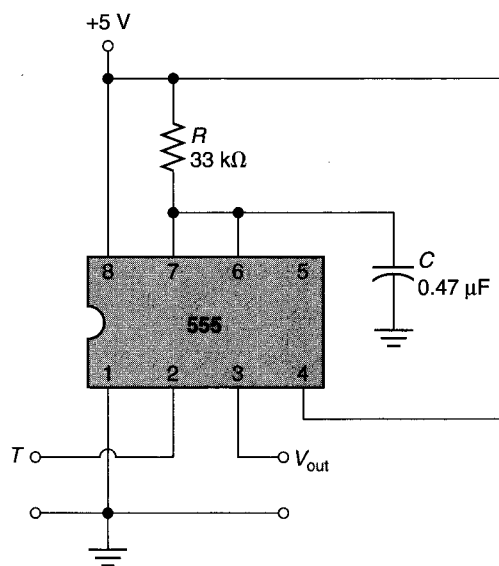

FIGURE 19.64
30. Calculate the output pulse width of the one-shot in Figure 19.64.